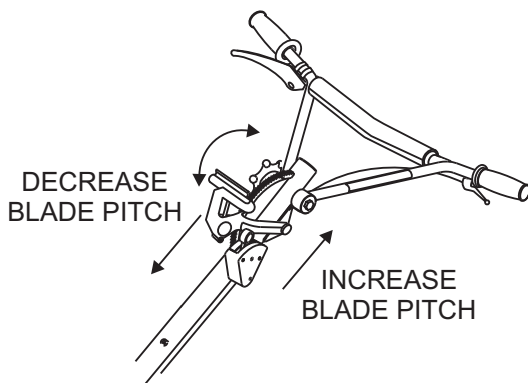

Figure 29. Quick-Pitch™ T-Handle
- To pitch the blades upwards using the “**Quick-Pitch™ T-handle**,” (Figure 29) simply squeeze the trigger lock and pull the **T-handle** towards the operator. Pushing the **T-handle** towards the engine will cause the blades to lay flat.